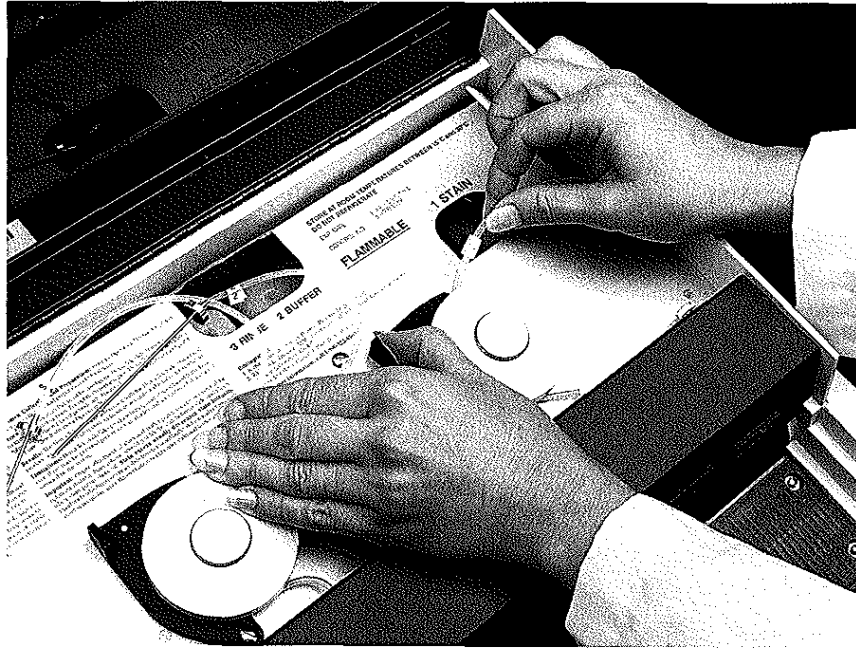

Figure 8-7
5. Remove each tube from the pump arm by pushing the thumb tab on the pump arm to the left as far as possible. While holding the thumb tab in this position (Figure 8-7), pull the plastic cuff on the tube until the tube is completely removed from the pump arm. Discard the tube in an appropriate waste container.